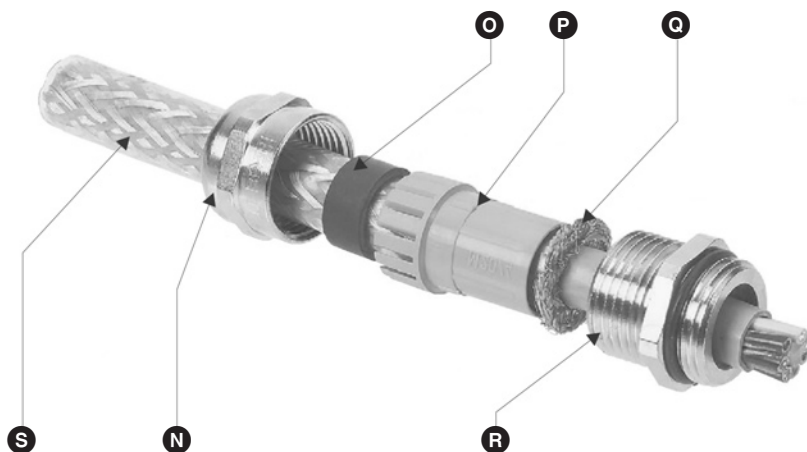

Fig. 10
3. Unscrew the cap nut **N** of the cable gland **C** and take out the lamellar insert **P**, **Fig. 10**